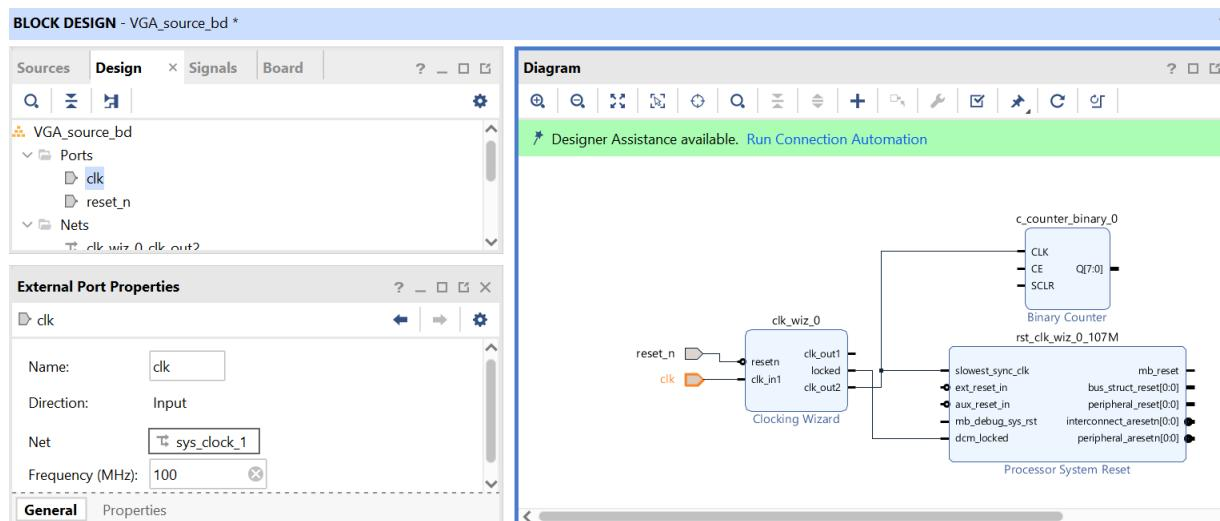

Figure 3: Partial system
- 4) Rename reset and clock respectively reset\_n and clk. Click on the input and use the External Port Properties to do so. The resulting system at this stage is showed in figure 3.